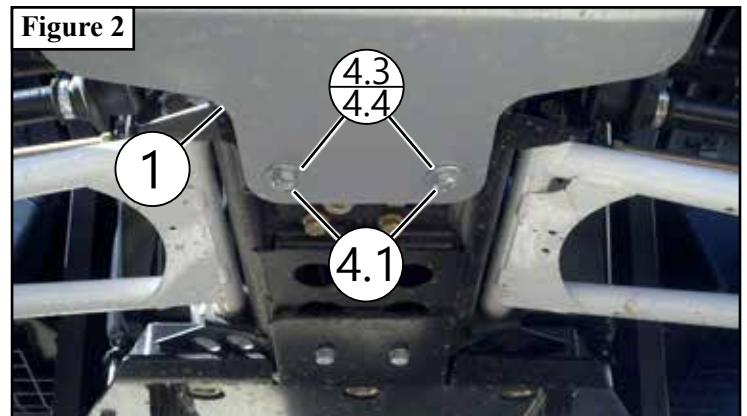

Figure 2
3. Secure bottom of plow mount (1) to the frame of the machine using bolts (4.1) and nut plate (2) as shown in **Figure 2 & 3**.